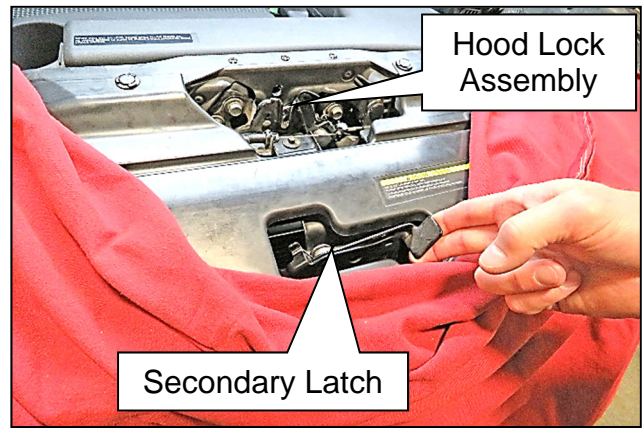

Figure 3
4. Move/cycle the release lever on the Secondary Latch and determine if the Secondary Latch and/or the Hood Lock Assembly is sticking (Figure 3).